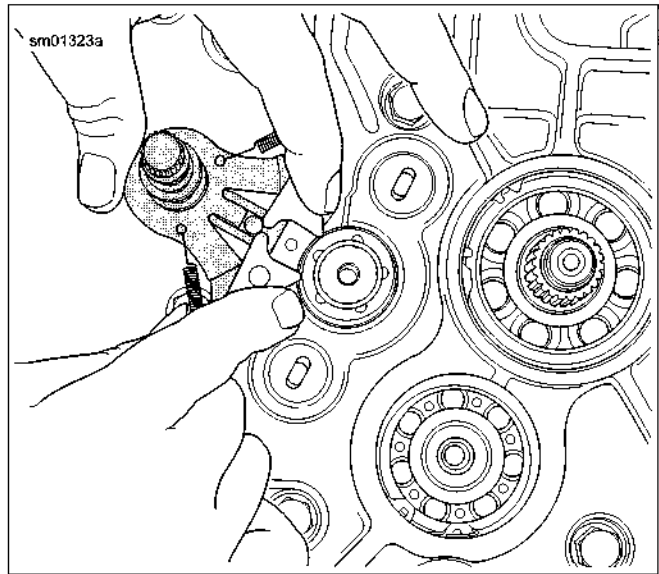

Figure 5-74. Installing Shifter Shaft Assembly
2. See Figure 5-74. Press the ratchet arms and insert shaft assembly into the bushing in the left case half and release. Ratchet arms should now be inside the end plate of the shifter drum contacting the shifter drum pins.
See Figure 5-74. Verify shifter shaft return spring assembly and installation. Incorrect spring installation could cause problems with shifting.